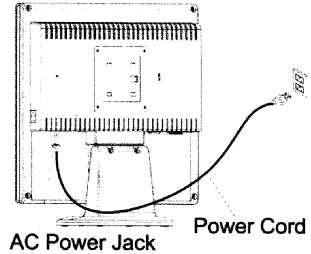

Figure 1-3
1. Connect the power cord to the LCD Monitor.(See Fig. 1-3)